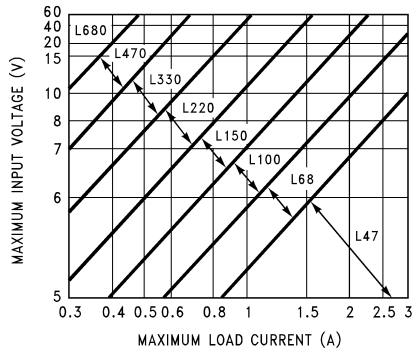
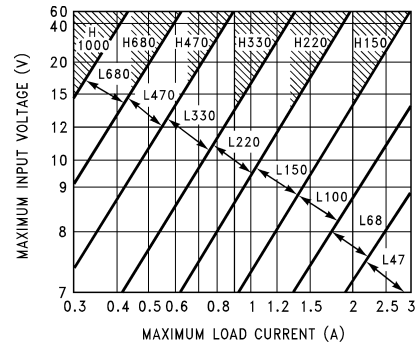
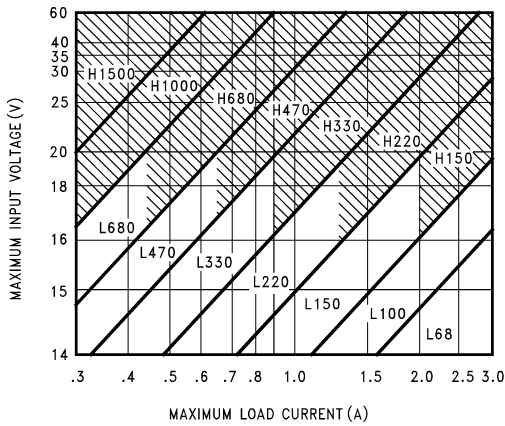
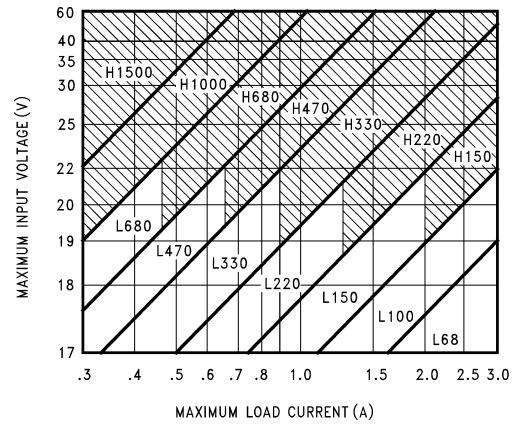

图 8-4. LM2576(HV)-3.3
图 8-5. LM2576(HV)-5.0
图 8-6. LM2576(HV)-12
图 8-7. LM2576(HV)-15
The inductor value selection guides in Figure 8-4 through Figure 8-8 are designed for buck regulator designs of the continuous inductor current type. When using inductor values shown in the inductor selection guide, the peak-to-peak inductor ripple current is approximately 20% to 30% of the maximum DC current. With relatively heavy load currents, the circuit operates in the continuous mode (inductor current always flowing), but under light load conditions, the circuit is forced to the discontinuous mode (inductor current falls to zero for a period of time). This discontinuous mode of operation is perfectly acceptable. For light loads (less than approximately 300 mA), it may be desirable to operate the regulator in the discontinuous mode, primarily because of the lower inductor values required for the discontinuous mode.
1. Select the correct Inductor value selection guide from 图 8-4, 图 8-5, 图 8-6, or 图 8-7. (Output voltages of 3.3 V, 5 V, 12 V or 15 V respectively). For other output voltages, see the design procedure for the adjustable version. Use the selection guide shown in 图 8-5.
- Identify the inductor value from the inductor code, and select an appropriate inductor from the table shown in Figure 8-4. Part numbers are listed for three inductor manufacturers. The inductor chosen must be rated for operation at the LM2576 switching frequency (52 kHz) and for a current rating of $1.15 \times I_{LOAD}$. For additional inductor information, see Section 8.1.2. Inductor value required is 100 μH from the table in Figure 8-4. Choose AIE 415-0930, Pulse Engineering PE92108, or Renco RL2444.